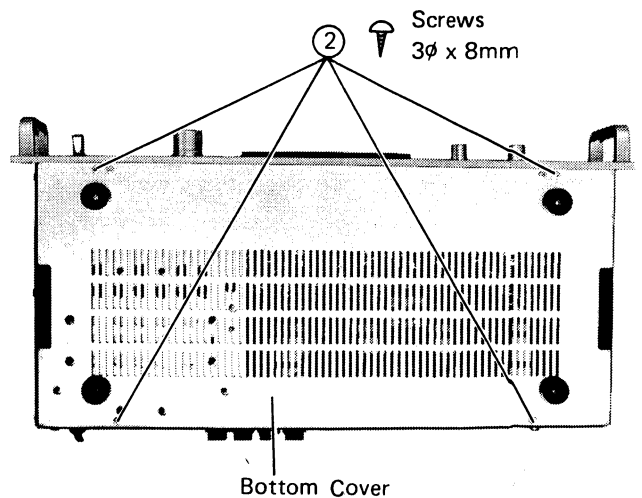

Figure 5
1. Remove four screws ②. See figure 5.